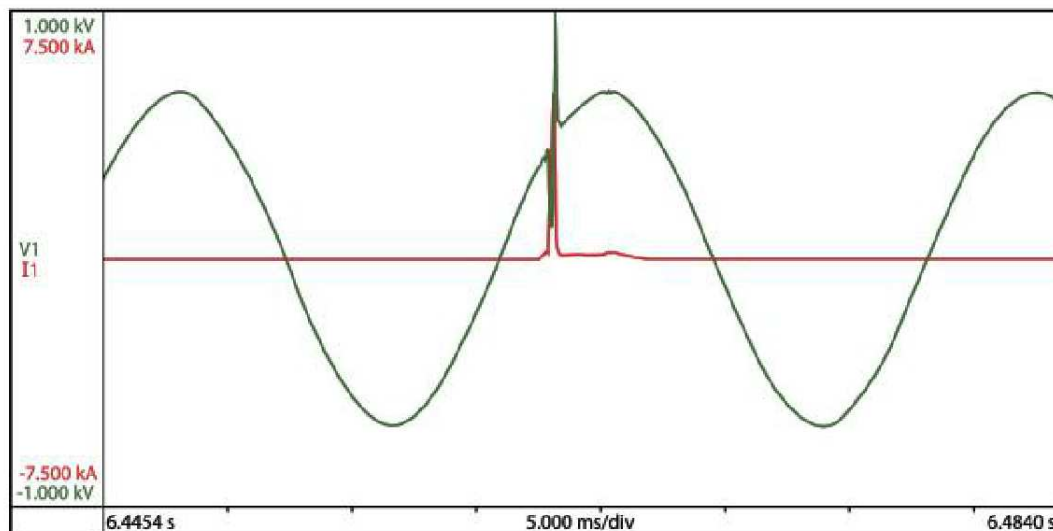

Figure 1: 34mm 320-volt MOV in series with a VSP10-2 tested at 480VAC 100kA
Fuse operation will typically occur after the MOV has already failed and causes a current spike. Figure 1 shows a standard 34 millimeter (mm) 320 volt (V) MOV used in conjunction with a surge-rated VSP10 fuse. The MOV entered the thermal runaway and ruptured causing a spike in current (5,000 amperes). When the spike occurred, the fuse opened and imposed a voltage spike on the system (1,000 volts).